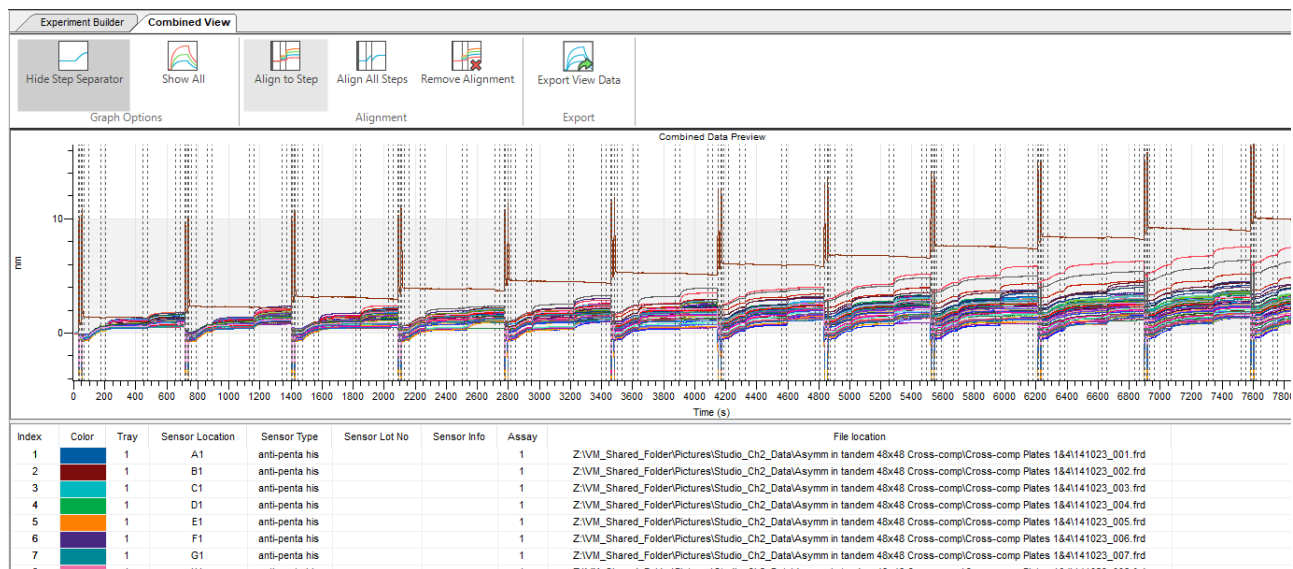

Figure 2-42: First File in Segment Window
1. Drag the first experiment file to the Segment box (Figure 2-42).